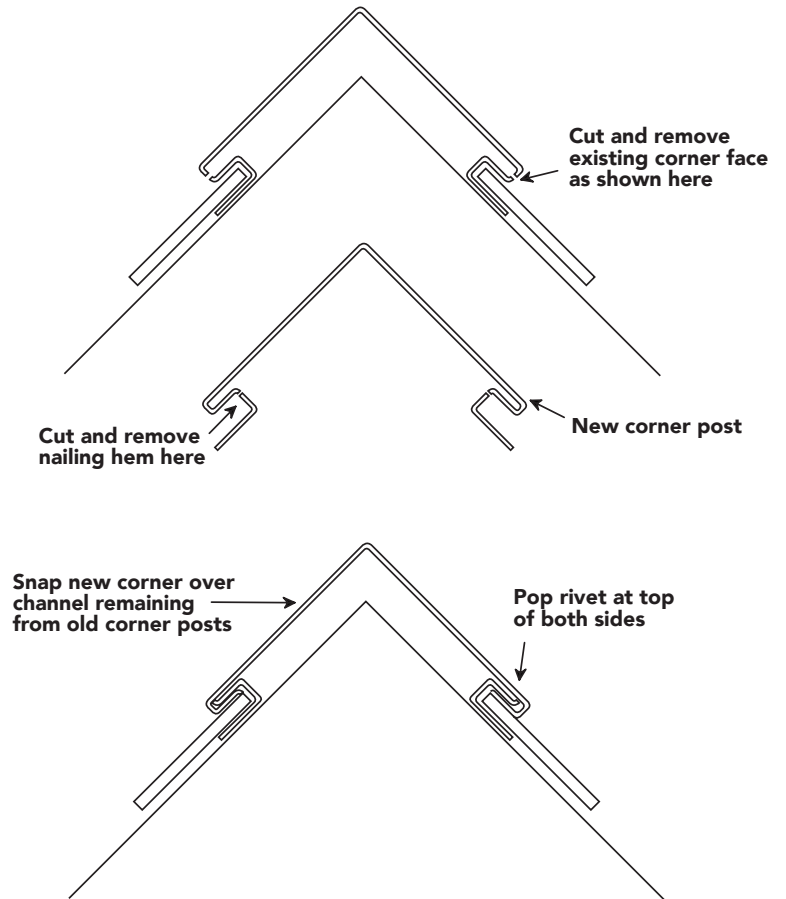

Figure 78
- Remove the nailing hem from the replacement corner (Figure 78).